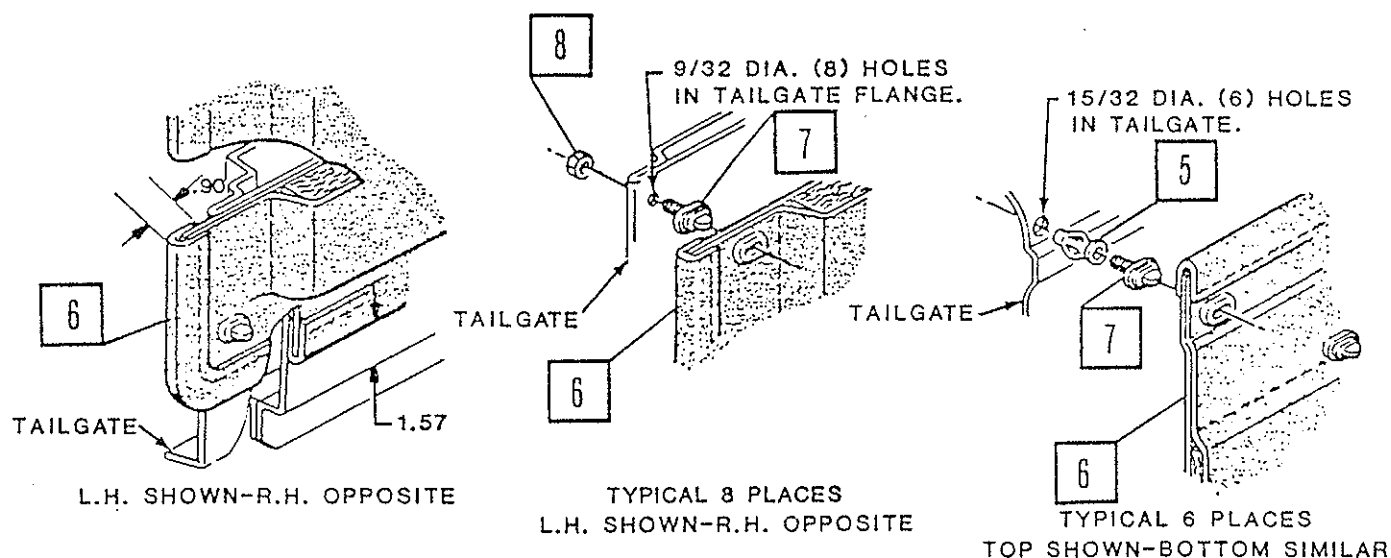

Figure 6.
23. From left- and right-hand edge of tailgate, measure 1/4 inch toward window crank; mark, center punch and drill 9/32 inch holes (Figure 6.).
24. Apply sealer and install turnbuttons with nut through lip of tailgate (Figure 6.). Tighten nuts to 35-50 lb.-in. (4.0-5.6 Nm).
28. Apply sealer and install jacknuts in drilled holes in tailgate (Figure 6.).